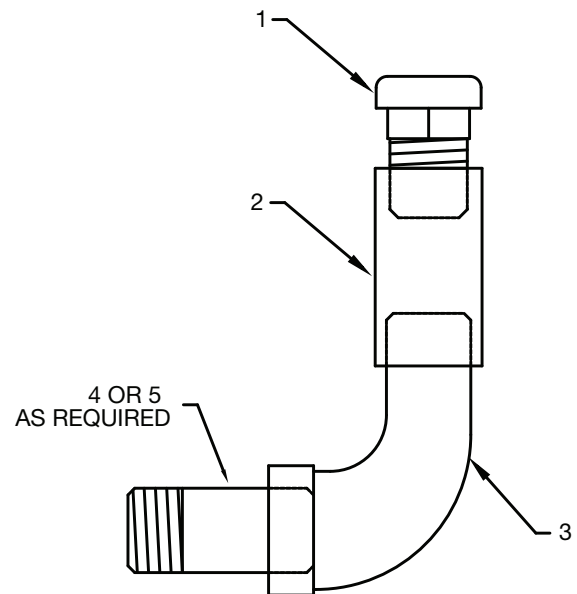

Figure 2 - Vertical Breather Kit Assembly
① Refer to Figure 2.
② Two lengths of pipe nipples are provided. Only one is required. Use pipe nipple length best suited to the application and discard the other.
③ Not shown on drawing. Used only on TA4–TA12.